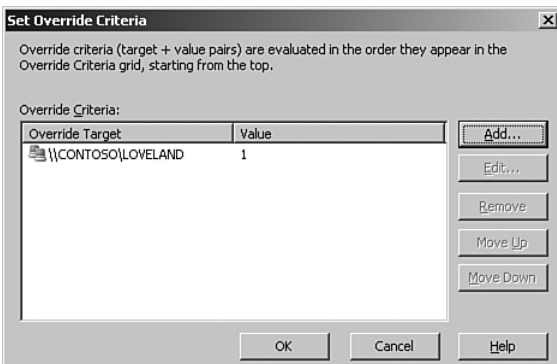

FIGURE 14.15 The Set Override Criteria screen in an event rule.
**Overrides** MOM can use overrides to force a rule to be disabled for a specific computer or group of computers, while leaving it enabled for all remaining computers. (Performance rules also use MOM overrides to provide different thresholds; we discuss this later in the “Performance Thresholds” section of this chapter.) Conversely, you can also disable a rule and then create an override enabling it for a specific computer or group of computers. Figure 14.15 shows a sample override criteria screen.